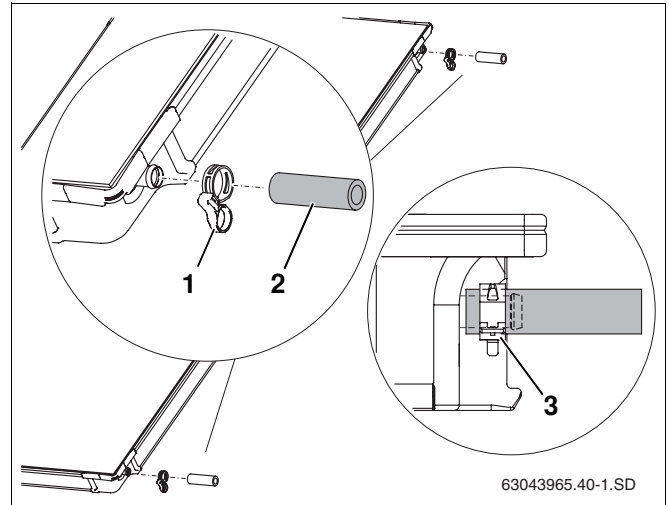

Fig. 20 Pre-assembling connection set on the second collector
- Push 95 mm solar hoses (Fig. 20, **Item 2**) onto the right-hand connections on the second and any subsequent collector.
- Push hose clips (Fig. 20, **Item 1**) over the solar hose (the second clip will enable the other collector to be connected later).
- Once the hose clip is sitting correctly, pull the quick release ring to secure the connection (Fig. 20, **Item 3**).